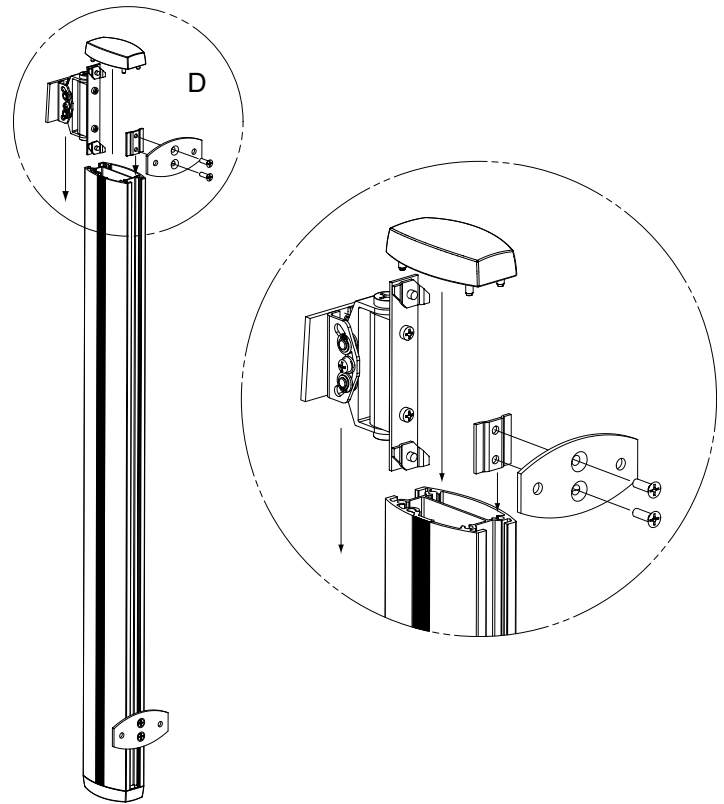
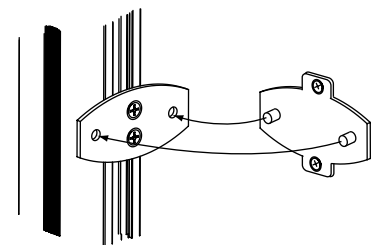

Figure 1
Figure 2
- ① The wall mounting plate has been pre-mounted on the column. If you wish to change the position, loosen the screws, adjust the position of the mounting plate and re-tighten the screws (see Fig. 1).
- ② Using wall brackets with mounting studs, mark the locations of holes with a pencil and drill holes in the wall where the product is to be mounted. Use a spirit level.
- ③ Mount wall brackets with mounting studs with screws suitable for the type of foundation (not included).
- ④ Attach wall mounting plates to mounting studs (see Fig. 2) and secure with acorn nuts.
- ⑤ Mount the multi-panel bracket (see Fig. 1) and other optional features, if applicable, to the column (see separate instructions included with optional equipment). Make sure that the narrower end of the tilt plate is pointing upwards. The stiffness of the tilt can be adjusted using the two screws at the side of the tilt plate.
- ⑥ Attach the plastic caps.